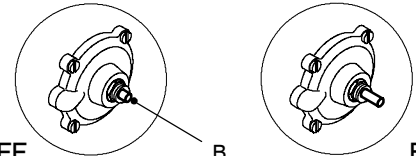

Fig. 3
- 3 Looking through the switch box verify the position of the shaft B referring to Fig. 3.